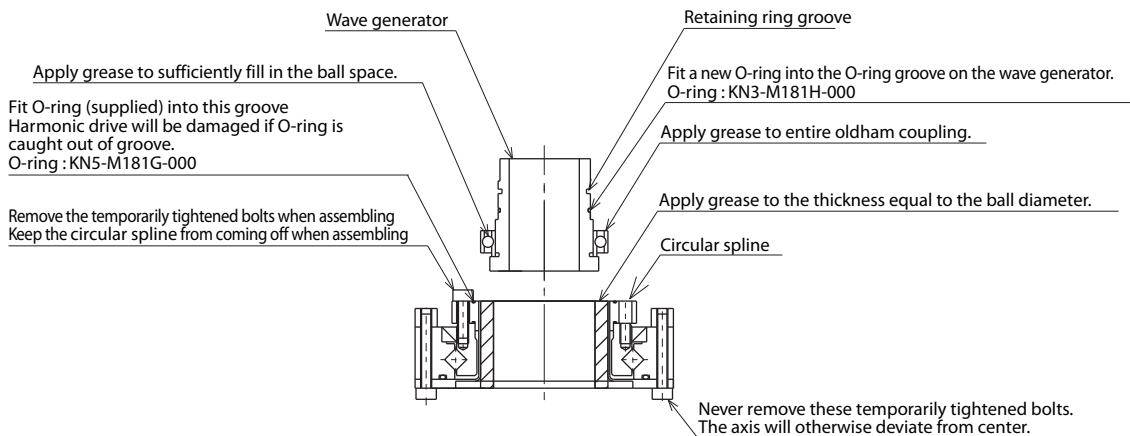

Fig. 5-16
- 12) Remove the retaining ring for the wave generator and pull out the wave generator from the bottom of the Y-axis arm. (See Fig. 5-16.)
- 13) Apply harmonic grease to the new wave generator. See Fig. 5-16 for applying grease properly.
- 14) Fit a new O-ring into the O-ring groove on the wave generator. (See Fig. 5-16.)
See Fig. 5-16 for applying grease properly.
REMOVE ONLY THE FOUR BOLTS SHOWN IN FIG. 5-16 AT THIS POINT. NEVER REMOVE THE BOLTS ON THE OPPOSITE SIDE. IF THEY ARE REMOVED, THE HARMONIC DRIVE AXIS MAY DEVIATE FROM THE CENTER CAUSING A TROUBLE.